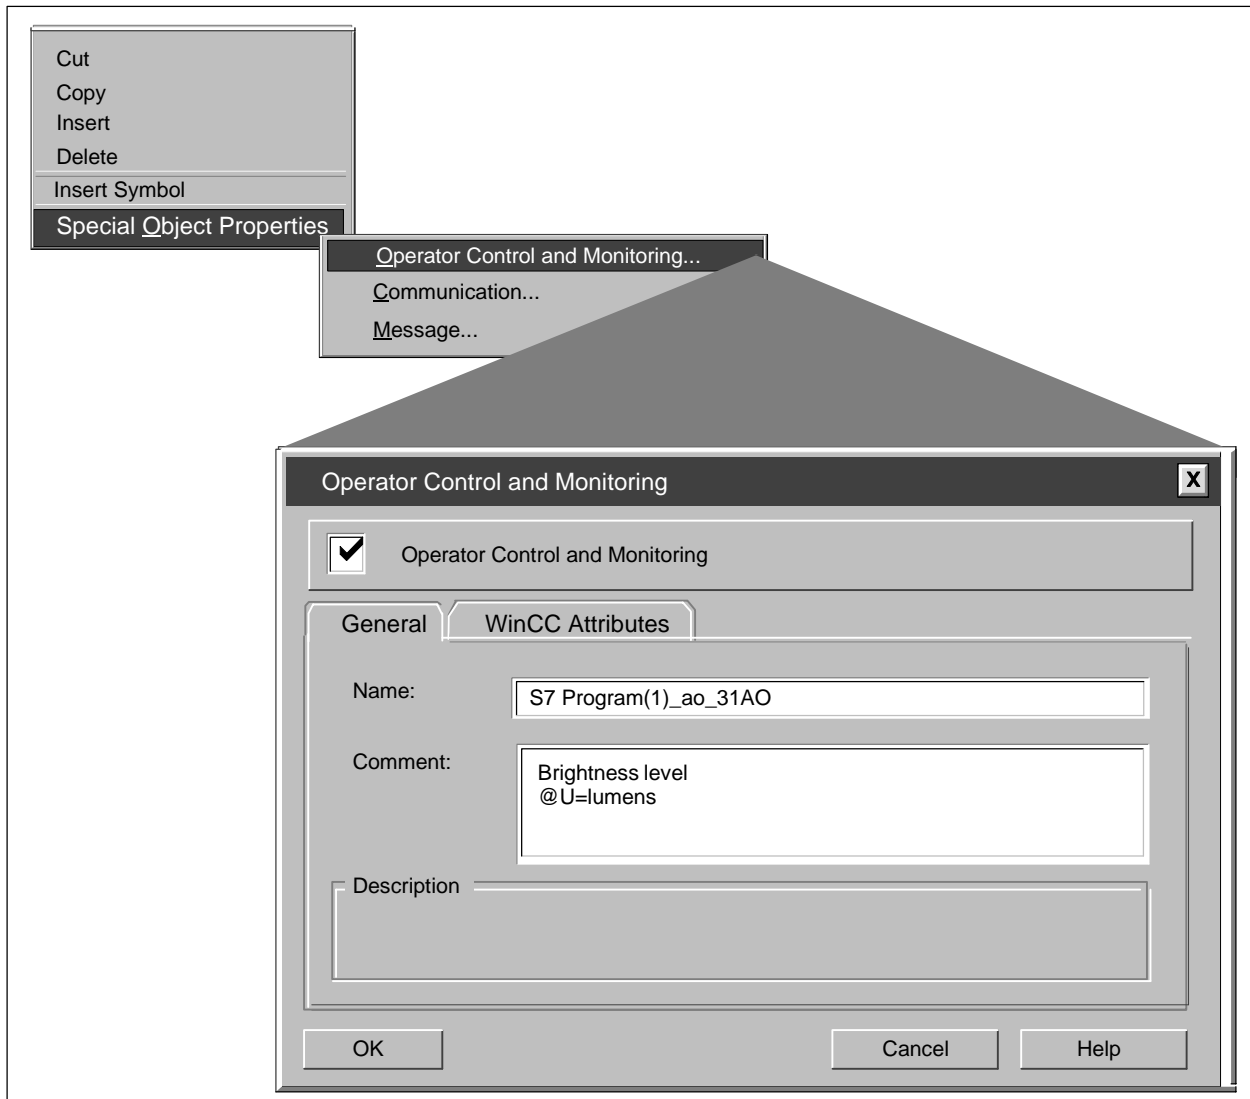

Figure 2-8 Setting Symbol Parameters in the Comment Field
3. Select **Special Object Properties->Operator Control and Monitoring** on the pop-up menu. (The **Communication** and **Message** options on this menu do not apply to OSx tags.) The Operator Control and Monitoring window appears (Figure 2-8).